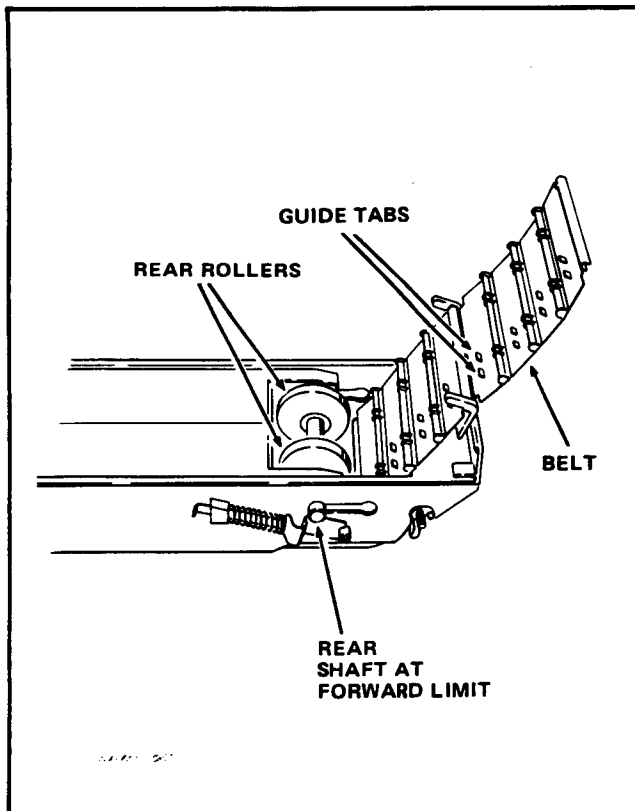

FIGURE 11
16. Lay the Module down and pull the Belt around the back of the Rear Rollers until about 15 cm (6 in.) of the Belt protrudes from the top of the Module. See Figure 11.
17. Move the Rear Shaft to its Forward limit. See Figure 11.
18. Align the Rear Rollers so that the Right Rear Roller is positioned between the Guide Tabs on the Belt. See Figure 11.